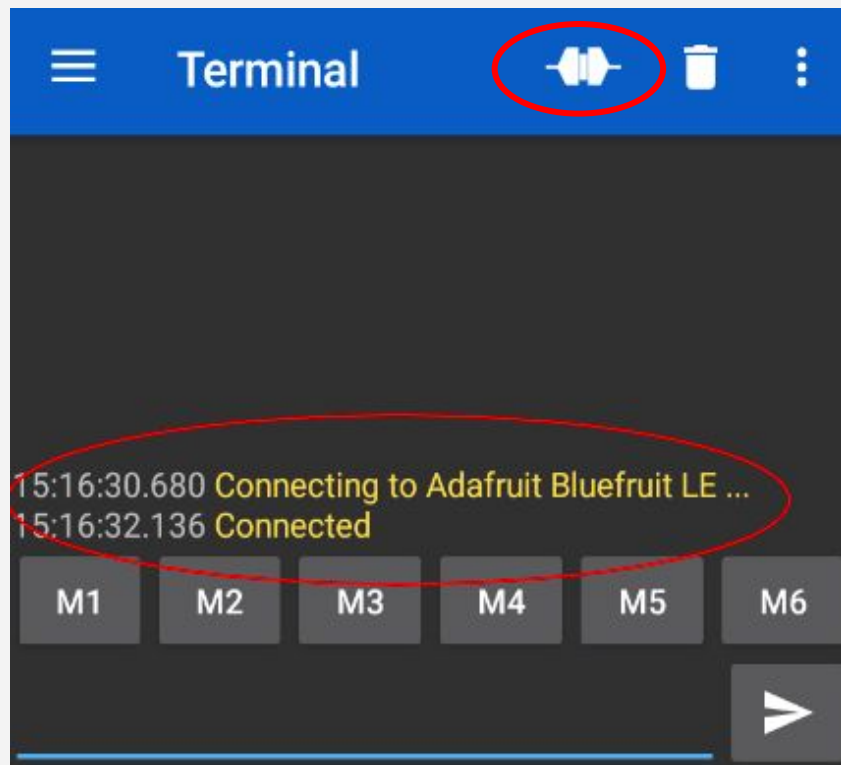

Figure 10
8. Click connect button- will say "connected" when ready (figure 10)
2. Search and download a "BLE terminal" app from the App Store. There are multiple BLE Terminal apps, the one we have used and succeeded with can be seen in figure 10.
Figure 10 - This app is the one which we used- all screenshots will be using this app. There are alternative BLE Terminal apps available, however some were unable to connect with the Braze Sentina when trialed.